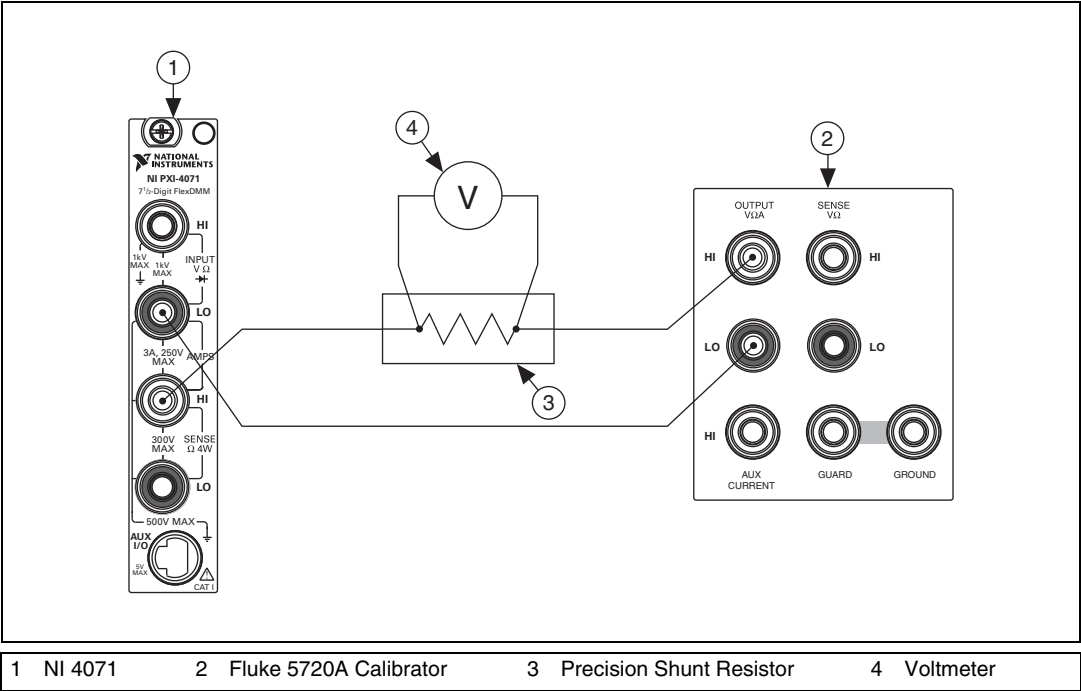

Figure 5. Shunt/Voltmeter Connections for Current
16. Connect the Fluke 5720A calibrator to the NI 4071 with a DC current shunt/voltmeter system in series, as shown in Figure 5. Table 15 lists the cable connections. Use the shunt recommended for $\pm 100 \mu\text{A}$ as indicated in Table 14.